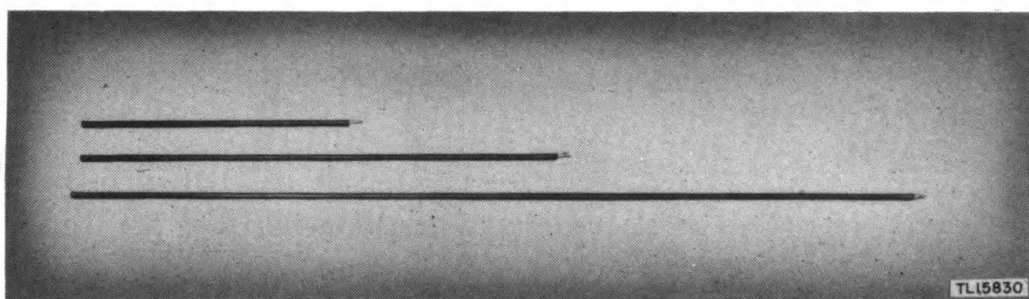
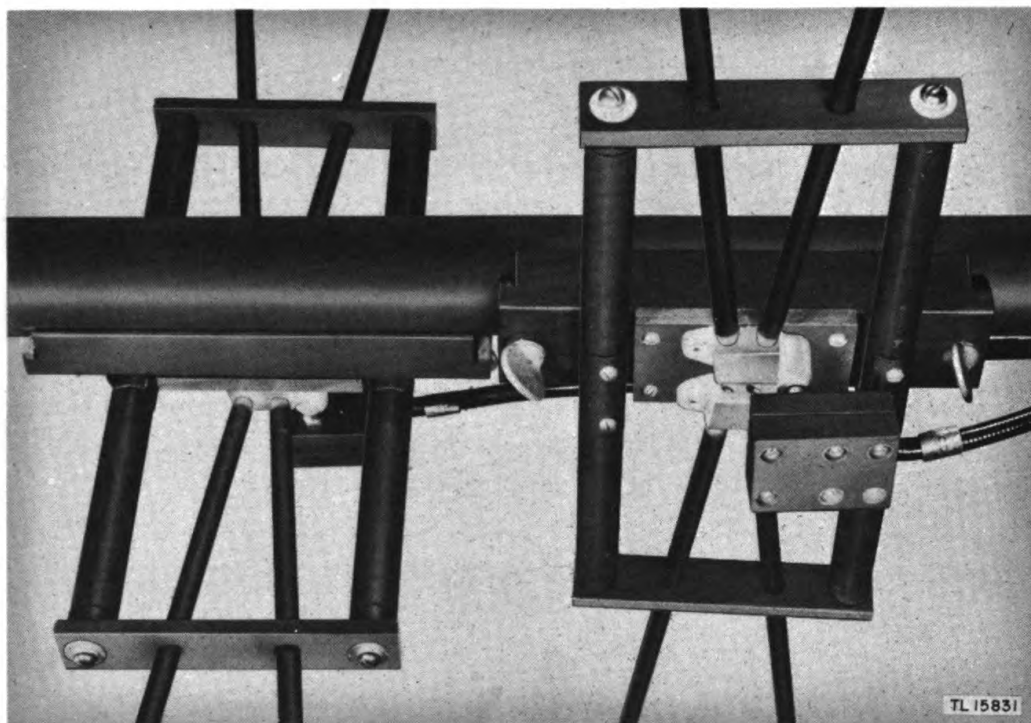

Figure 5. Antenna elements.
Figure 6. Two dipole mounting assemblies, with cables connected and elements in place.
(3) Insert the antenna elements (fig. 5) into the connection blocks through the bakelite insulators at the ends of the dowel spreaders. Push the rods all the way in so that the tapered portion of the banana plug seats in the tapered part of the hole in the connection block. The eight 23-inch antenna elements are for TIER-1; the eight 41-inch antenna elements for TIER-2 and the eight 71-inch elements for TIER-3. Figure 6 shows one tier installed.